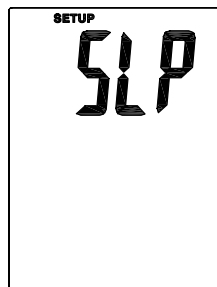

Fig. 4
1. While in Setup mode, press **UNIT ▲** or **UNIT ▼** to scroll to the "SLP" screen (refer to Fig. 4). Press **ENTER** to display "On".